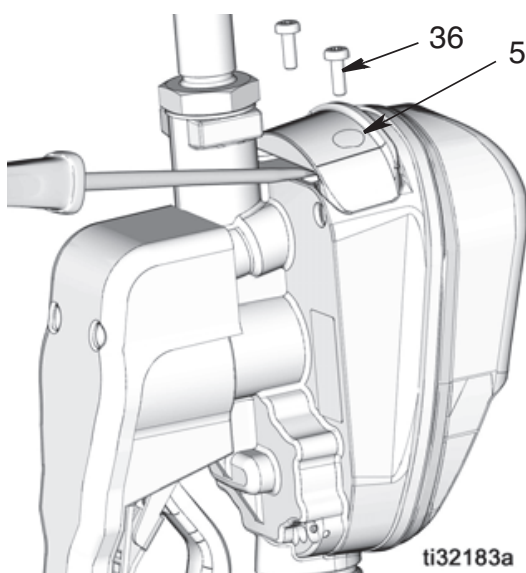

FIG. 75
1. Remove screws (36) from the battery compartment cover (5).
2. Use a small, flat screwdriver to gently pry the cover away from the metered dispense valve housing on the bottom side of the cover, near the extension attachment as shown in FIG. 75.